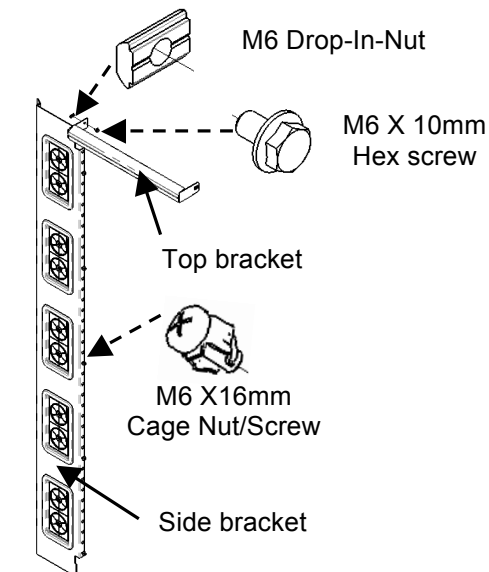

Fig. 1
- Air dam is comprised of one top bracket and one side bracket (Fig. 1).